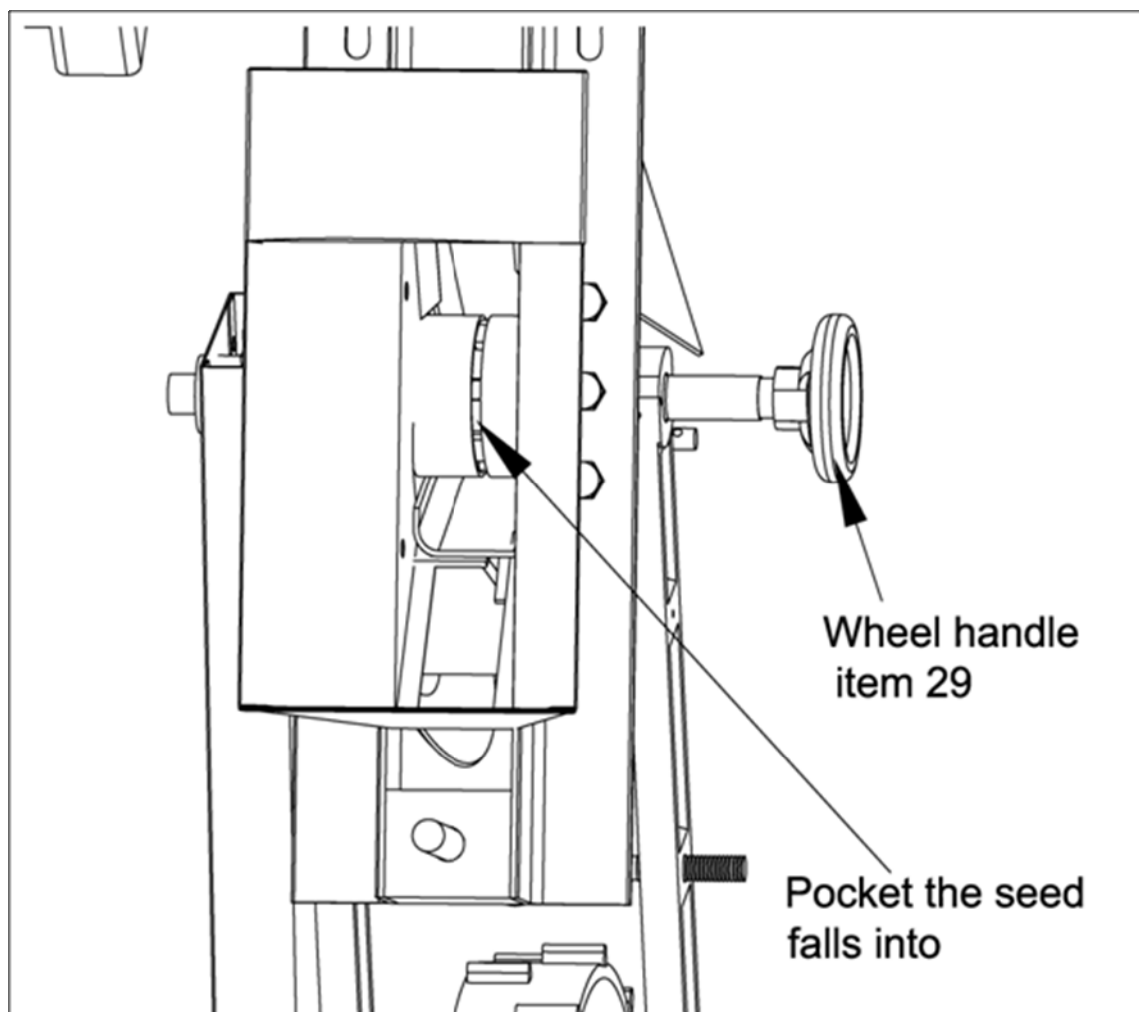

Figure 14
The wheel handle item 29 on the side of planter assembly is used to adjust the size of the pocket that the seed will fall into and be metered out of the hopper assembly. Turning the wheel handle clockwise makes the pocket smaller and counter clockwise enlarges it. See figure 14.